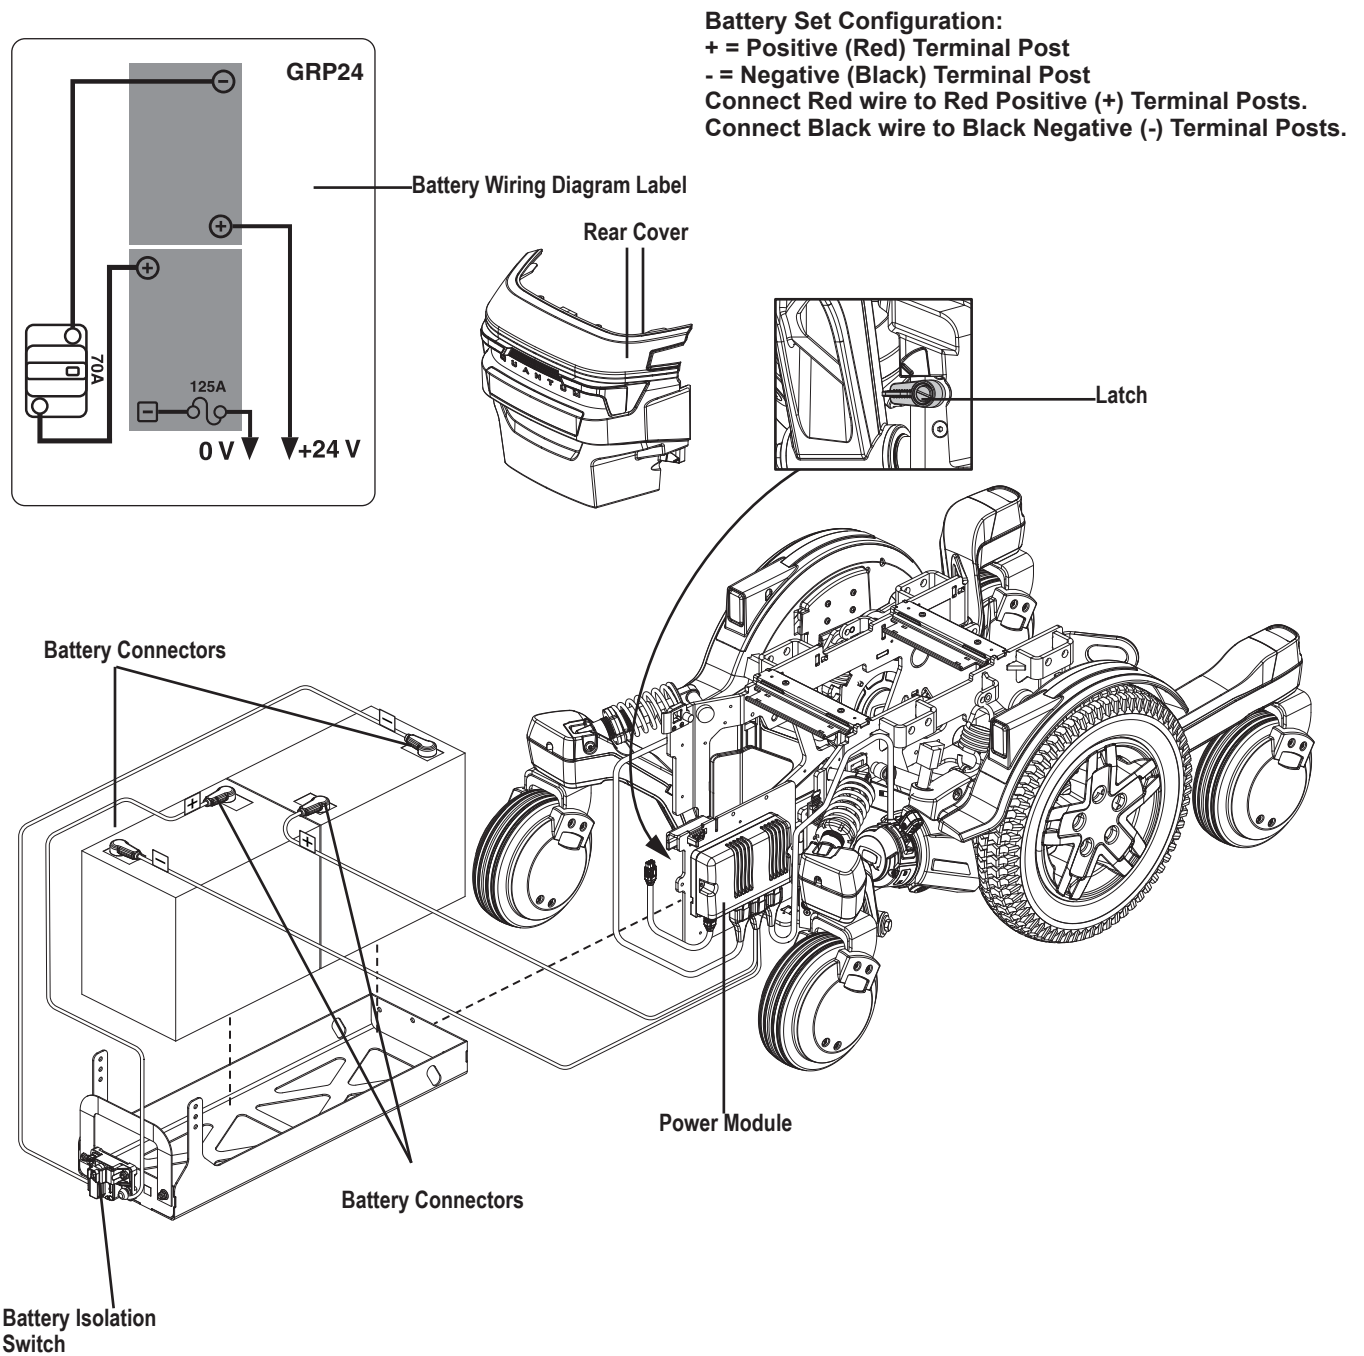

Figure 14. Group 24 Battery Installation
3. Remove the rear shroud by rotating the two (2) yellow clips out toward the drive wheels. Lift the rear cover up and away from the power base.
10. Remove all of the harnessing off the rear battery. Once all harnessing is removed from the battery remove the battery from the tray. **See Figure 14.**
11. Once the first battery is removed slide the second battery towards the rear of the tray. Repeat the above steps for the second battery. **See Figure 14.**
13. Connect the battery harness to the new batteries according to the battery wiring diagram. **See figure 14.**